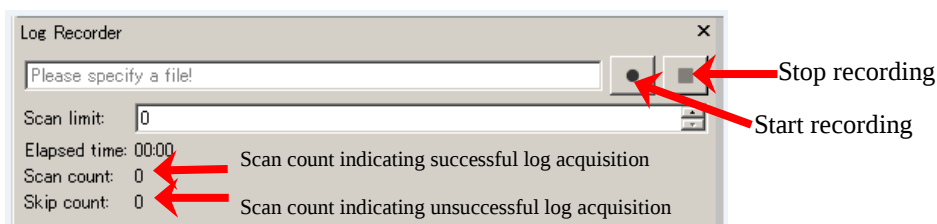

Figure 3-14 Data logging window
- ③ When data logging window is displayed as in figure 3-14, enter the number of scans you want to record in the scan limit box (if the scan limit is 0, records until stop button is clicked)
- ④ After entering the number of scans, click start recording button as show in figure 3-14. Select the location and enter the file name. Click save button and it starts recording.